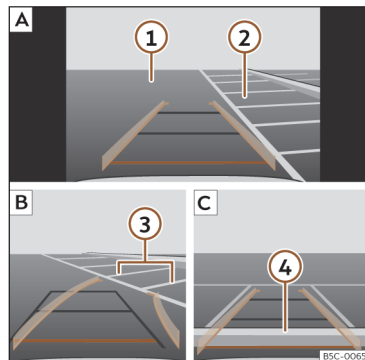

Fig. 145 Display on the infotainment system screen: parking with the reverse assistant.
Key to the >>> **Fig. 145:**
- Stop the vehicle in front of the parking space >>> **Fig. 145**  **A**.